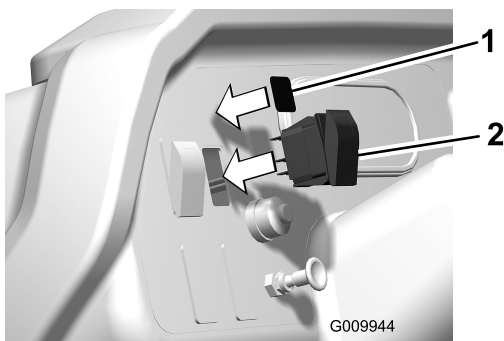

Figure 20
2. Insert the switch into the dash-panel opening (Figure 20).
3. Apply the decal to the dash panel next to the switch (Figure 20).